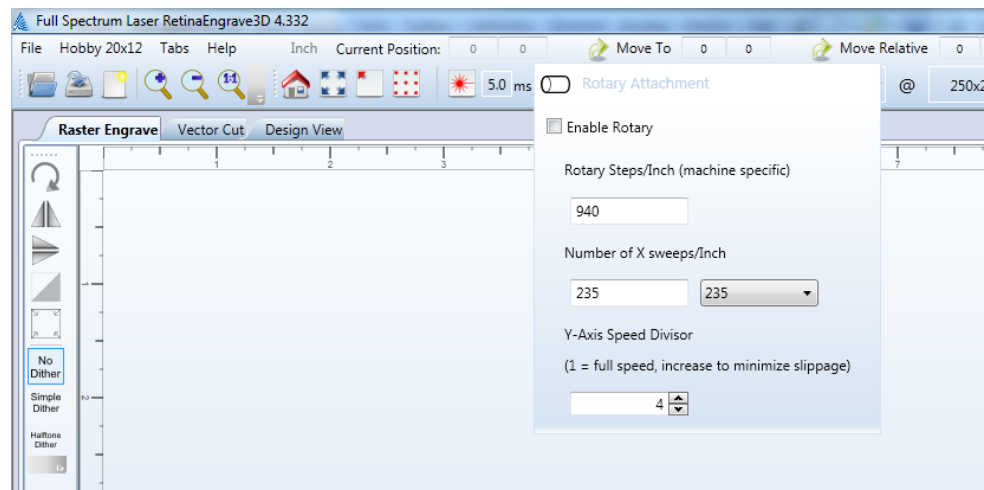

Figure 35 - Rotary Engrave Menu
3. Click on the **Rotary** button (Figure 35)